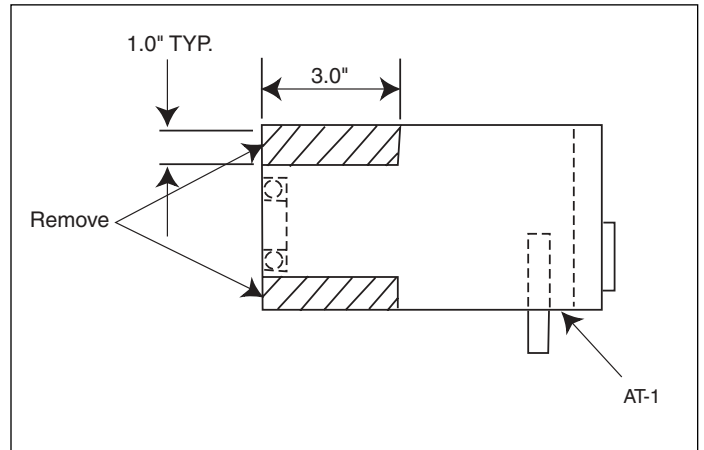

Figure 4
3. The alignment tool is placed on the actuator and the circular bushing of the alignment tool inserted into the receiver block. (The actuator must be in the fully retracted position.) The alignment tool will need to be altered to allow access to the two rear mounting holes of the actuator. The upper plate of the tool should be modified as shown in Figure 4.